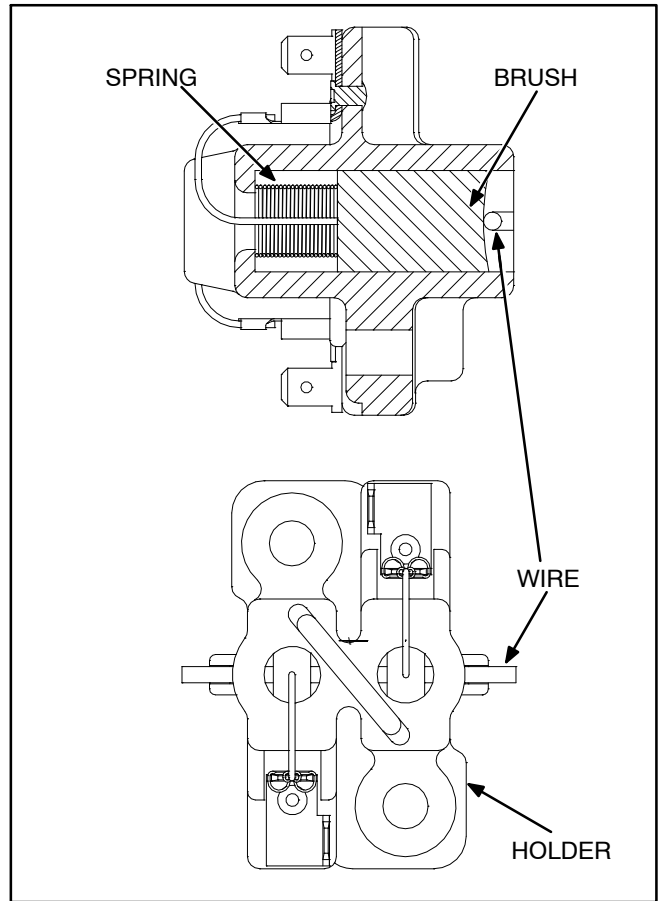

FIGURE 5-7. BRUSH REPLACEMENT
4. Install the new brushes and springs in the holder and keep them in place during assembly by inserting a piece of wire through the holder, as shown in Figure 5-7.
7. Pull each brush away from the commutator rings and insert a piece of stiff wire into the small hole in the brush holder. See Figure 5-7.